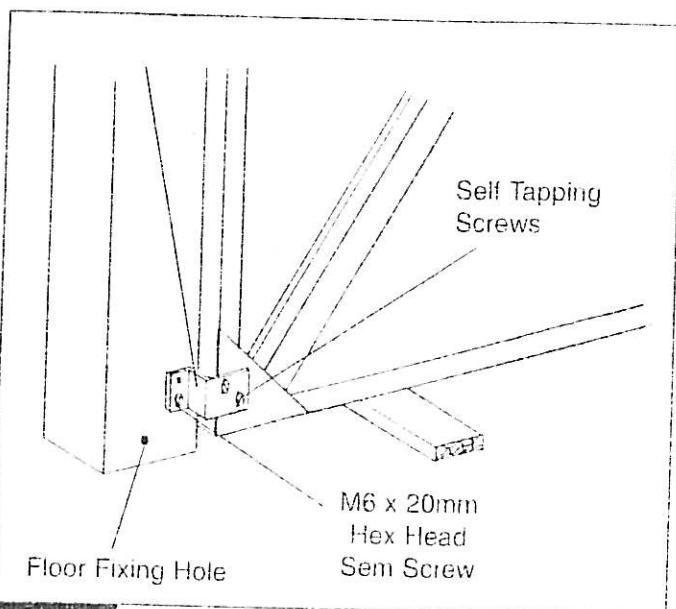

FIG 2
4 Remove transit brackets from assembly. Retain M6 × 20mm hex head sem screws and discard No. 10 × 3/4" self tapping screws (Figure 2) and brackets.
5. Remove 4 screws securing the two spring mounting brackets. (See Fig. 2)